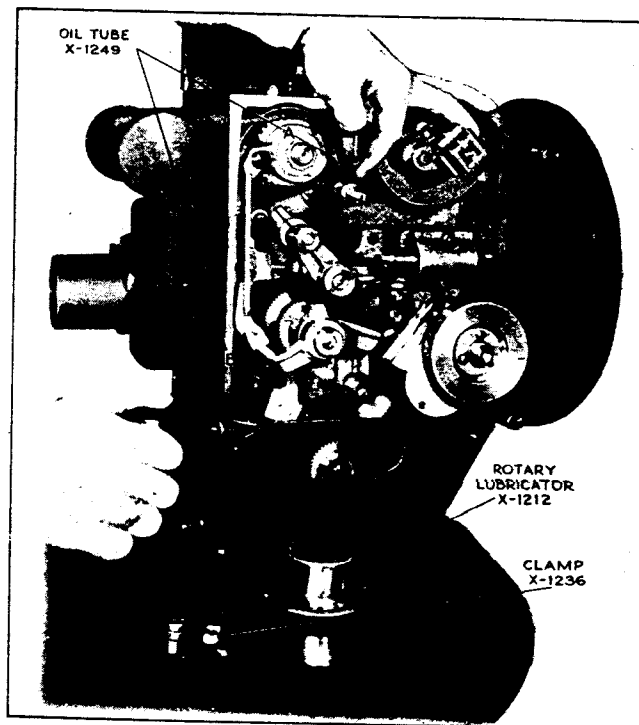

Figure 7—Removing Oil Tube (Early Design)
7. Lift the oil tube, X-1249 out of the pump by applying slight upward pressure at point "A", see Figure 7, and at the same time prying upward on the oil tube at point "B" by means of the bit of an eight-inch screw driver.